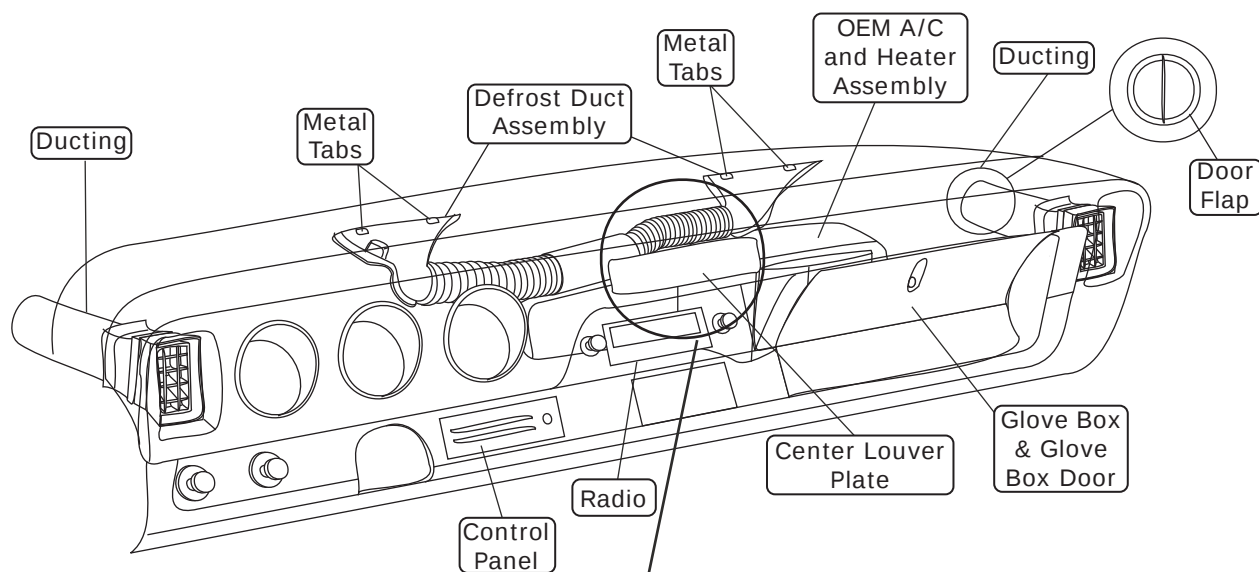

Figure 1
5. Remove OEM defrost duct assembly by straightening (4) metal tabs (See Figure 1, below).
6. Remove OEM A/C and heater assembly (discard) (See Figure 1, below).
1. Remove kick panel grille (discard). Remove the kick panel by removing (5) OEM screws from the fresh air door assembly. Disconnect and discard pull cable assemblies from the kick panel (See Figure 1, below).